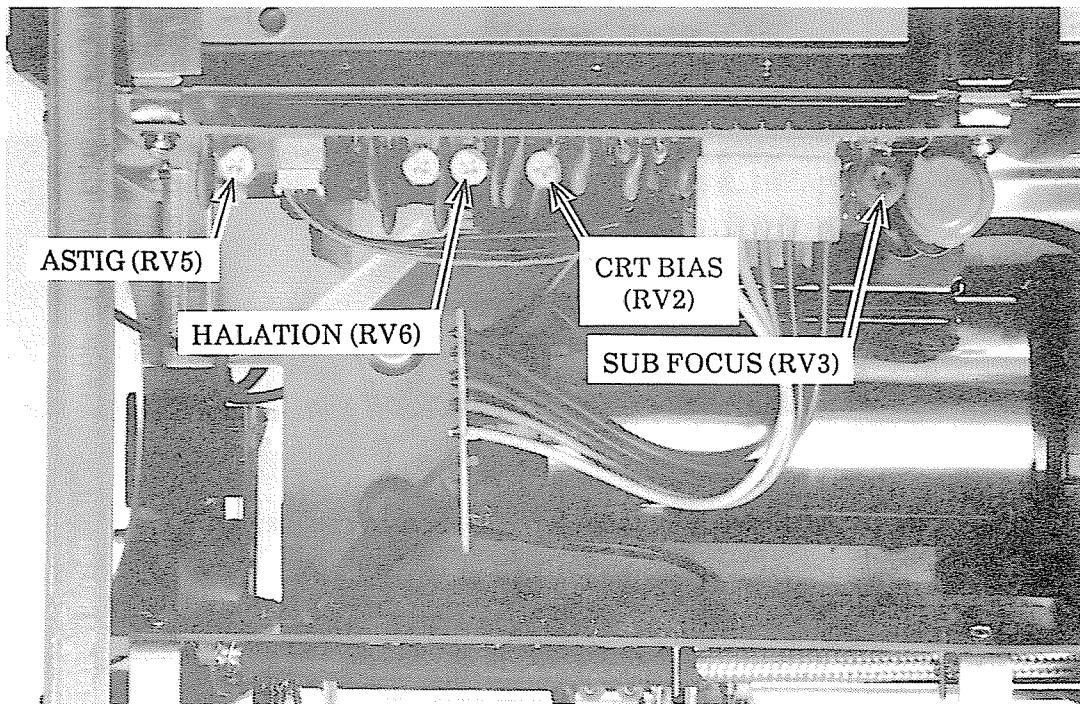

Fig. 4-11 Adjustment position of CRT circuit [ASTIG (RV5), SUB FOCUS (RV3) HALLATION (RV6), CRT BIAS (RV2)]
- (1) Set the input coupling of CH1 and CH2 to "GND".
- (2) Set "HORIZ MODE" to "X-Y", and using each of the horizontal and vertical "POSITION" controls, output a bright spot at the center of the CRT screen.
- (3) Rotate "FOCUS" knob to a suitable position, and confirm whether or not the bright spot can be made to approach a circle without limit. If the bright spot does not approach a circle, adjust ASTIG (RV5) on board A6 shown in Fig. 4-11.
Set the white dot on "FOCUS" knob to the 12 O'clock position, and confirm whether or not the electron beam is correctly focused. If the electron beam cannot be correctly focused when "FOCUS" knob is set to the 12 O'clock position, adjust SUB FOCUS (RV3) on board A6 shown in Fig. 4-11.
Confirm that the characters near the periphery of the CRT are not blurred. If they are blurred, adjust HALATION (RV6) on board A6 shown in Fig. 4-11.
- (1) Set "TIME/DIV" to 1ms/DIV, and draw a single horizontal line trace across the CRT screen.
- (2) Set the white dot on "INTEN" knob to the 10 O'clock position, and confirm that the trace is faintly visible. If the trace is either too bright or cannot be seen at all, adjust CRT BIAS (RV2) on board A6 shown in Fig. 4-11.